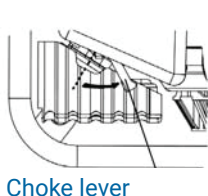
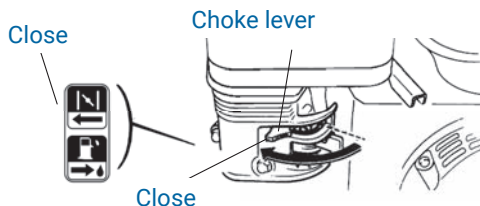

Fig.5-2a
Fig.5-2b
2). Close the choke lever. (for LGP15-A fig.5-2a; for LGP20-A-1/LGP30-A-1 fig.5-2b)